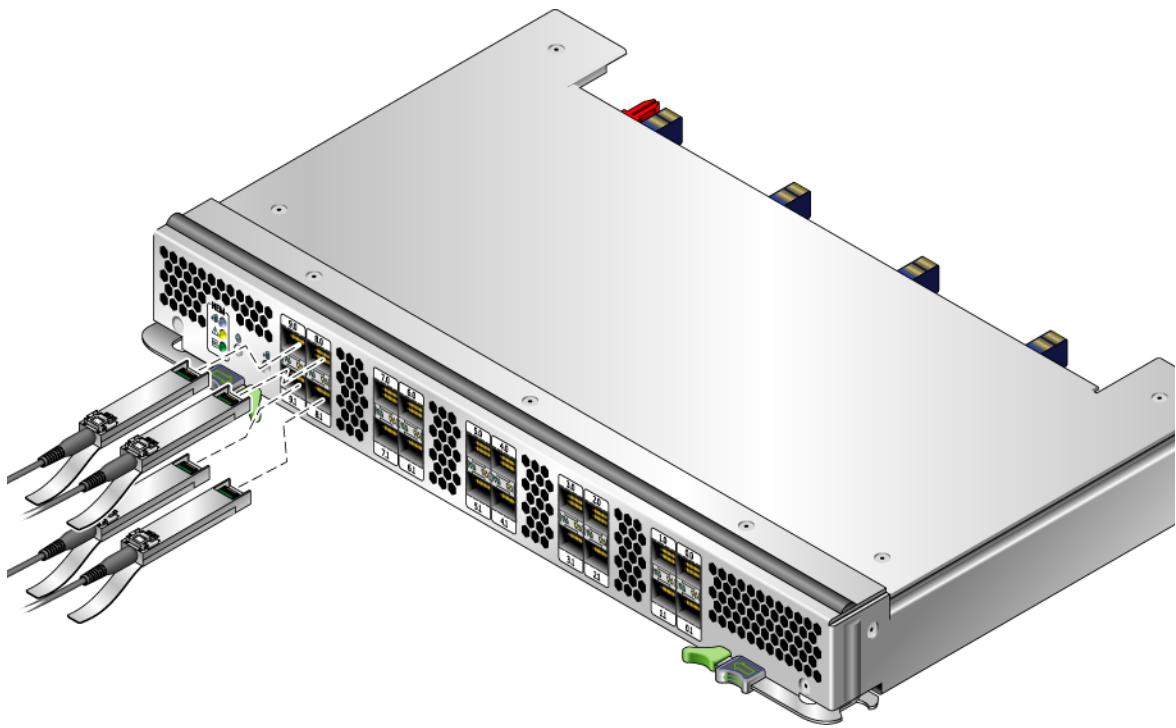

FIGURE 2-3 Connecting the Optical Cables
1. Connect each fiber-optic cable to an LC connector on the NEM (see FIGURE 2-3).